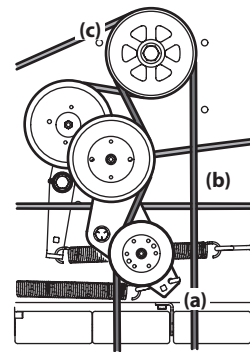

Figure 4-18
3. Using a 1/2" drive in the idler pulley bracket (a), turn the wrench towards the right of the tractor and slide the PTO belt (b) off the PTO pulley (c). See Figure 4-18.